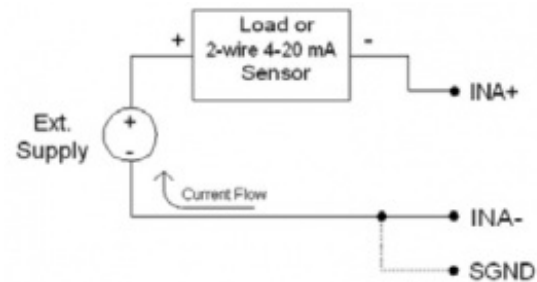

**Figure 4: 3-Wire Sourcing Sensor w/ Ext. Supply**
- Note the discussion above about having a common reference. When you are using external supplies (Figures 4, 6, 7 and 8), those supplies must be referred to LabJack GND. If the supplies are not already referred (the DC output of an AC-DC supply is usually floating), make one connection from the common/negative of each power supply to SGND or GND on the LJTCES or LabJack.